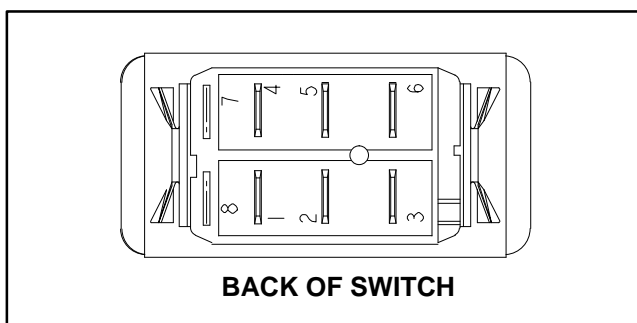

Figure 63
5. The backlap switch terminals are identified in Figure 63 and the circuitry of the selector switch is shown in Figure 64. With the use of a multimeter (ohms setting), the switch functions may be tested to determine whether continuity exists between the various terminals for each switch position. Verify continuity between switch terminals.